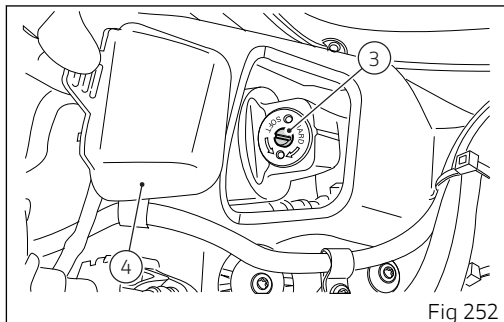

Fig 252
The adjuster (3, Fig 252) located on the expansion reservoir of the shock absorber adjusts the compression damping.
Reach adjuster (3, Fig 252) removing the seat and lifting the cover (4, Fig 252).
- loosen adjuster (3, Fig 252) by 1.5 turns.